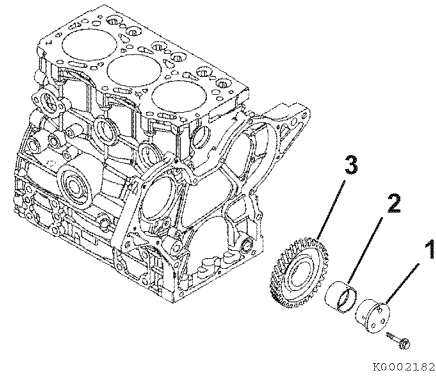

Figure 6-43
1. Remove the bolts from the idler gear shaft (1, **Figure 6-43**). Remove the idler gear shaft, idler gear (3, **Figure 6-43**) and bushing (2, **Figure 6-43**).